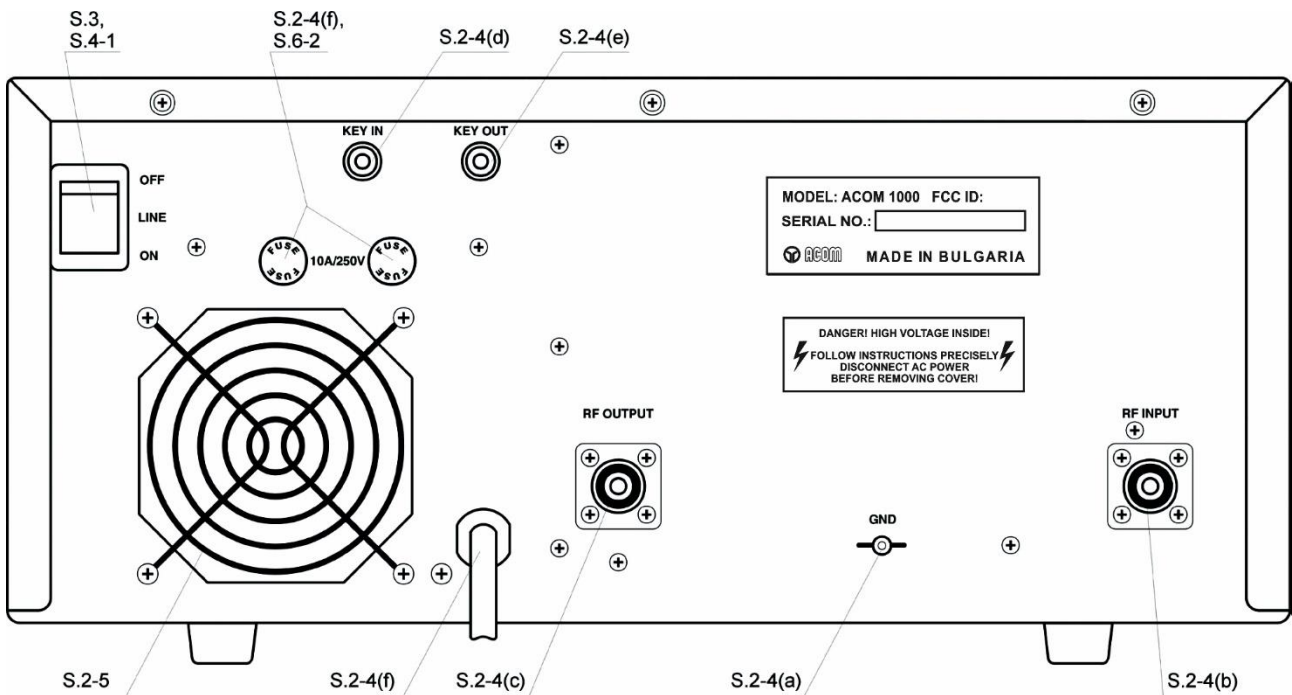

Figure 2-1 Connections
- a) First, connect the ground stud of the amplifier (on the rear panel, marked GND) to the station's grounding system (see **Figure 2-1 Connections**).
This fan (see **Figure 2-1 Connections**) is not necessary in SSB and CW modes, nor in continuous carrier modes (RTTY, SSTV etc.) with carrier down times of maximum 15 minutes and a subsequent pause of 3 minutes.
After following all instructions in Section 2 *INSTALLATION*, you can turn ON the main power switch marked "LINE" on the rear panel (see Figure 2-1 *Connections*). The LED indicator above the red ON/OFF button located on the front panel must light red and "ACOM 1000" will appear on the OLED (see Figure 3-1 *ACOM 1000 Display and Control*):